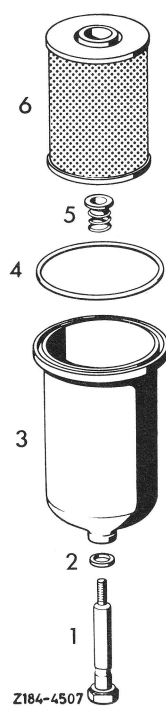

Fig. 3
4 Check sealing ring (2) and replace according to findings (Fig. 3).